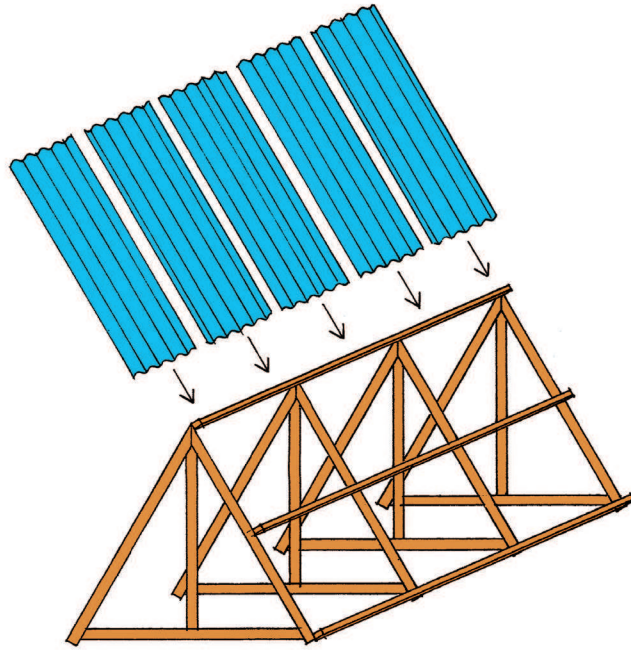

Figure 8
4. What part of the roof trusses shown here will prevent them from tearing apart when the roof sheets are loaded onto them? Mark this part on one of the roof trusses on Figure 8.